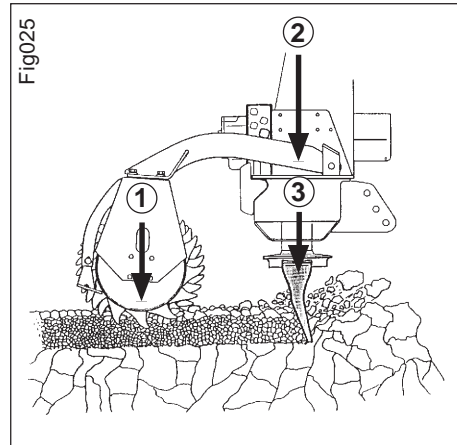

Fig. 2.9
1. net weight of the packer roller (Fig. 2.9/1).
2. net weight of the soil tillage implement (Fig. 2.9/2).
- the force with which the tines try to drag themselves into the soil (Fig. 2.9/3).